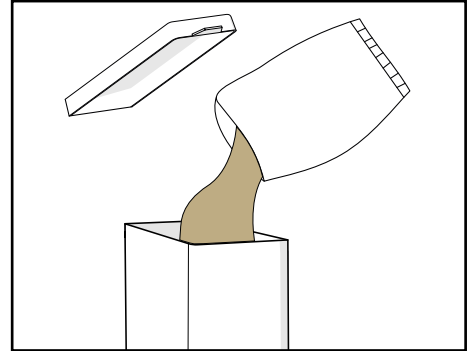

Figure 62.
3. Fill the canisters to **maximum three quarters** of the capacity (see Figure 62).